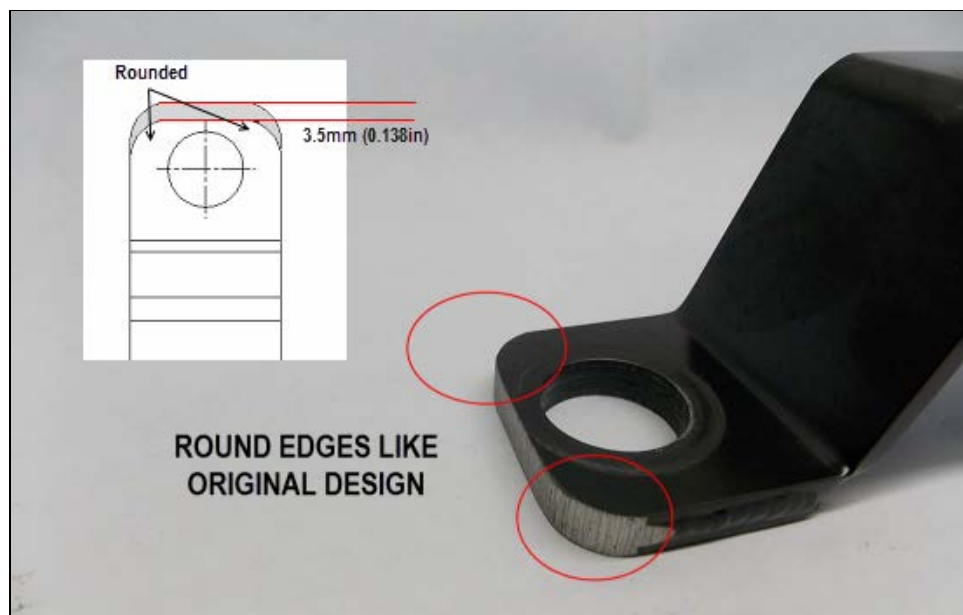

Figure 4
- 4) Grind the edges to keep the as much as possible the original “rounded” shape as seen in the illustrations below (Figure 4).